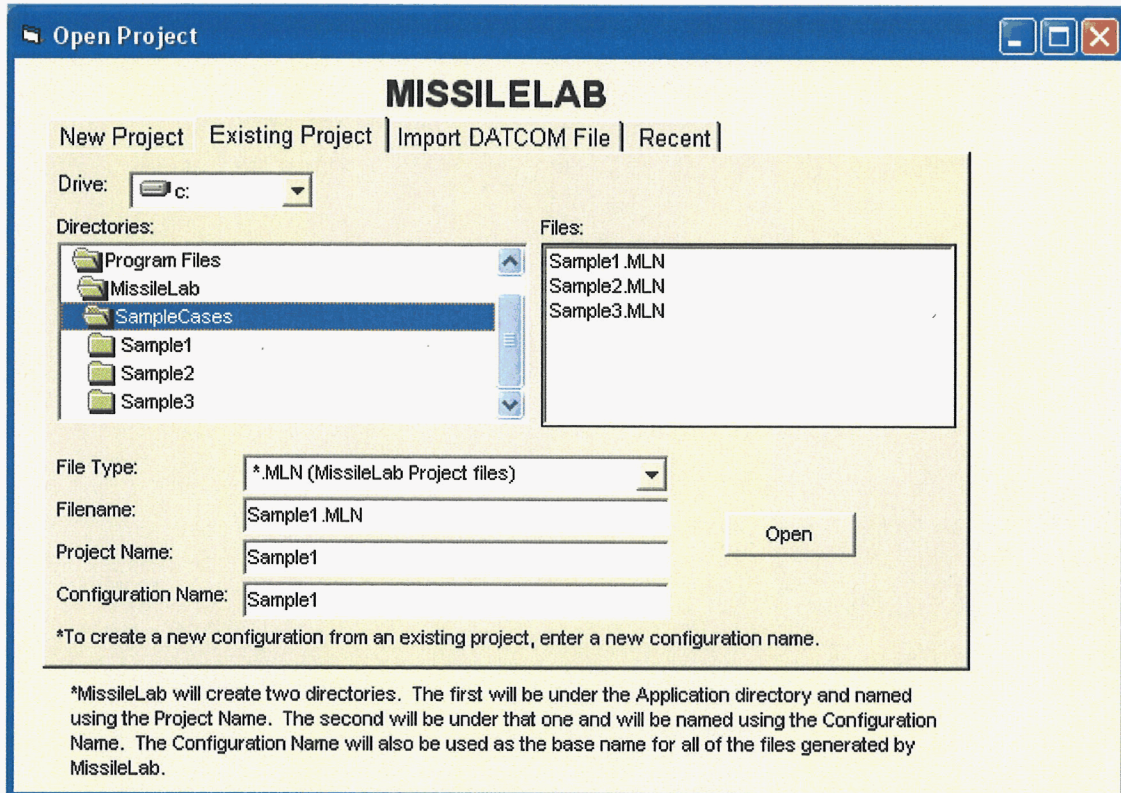

Figure 6. Project File Screen
Figure 6 presents the initial project definition screen. As seen in this figure, there are four tabs (or options) for the user to choose. These options are: (1) start a “New Project”, (2) open an “Existing Project”, (3) “Import (an existing) DATCOM File”, or (4) open a “Recent(ly)” used file. As discussed in Section III.A.1, MissileLab will create a project directory under the MissileLab home directory, and then a configuration results directory under the project directory. As seen in Figure 6, the project directory may have several configuration files (*.MLN) and their corresponding configuration results directories.
The “Existing Project” screen shown previously in Figure 6 opens an existing MissileLab file. The user may also open an existing project file and rename it by entering a new configuration name in the “Configuration Name” text box or a new project name in the “Project Name” text box.